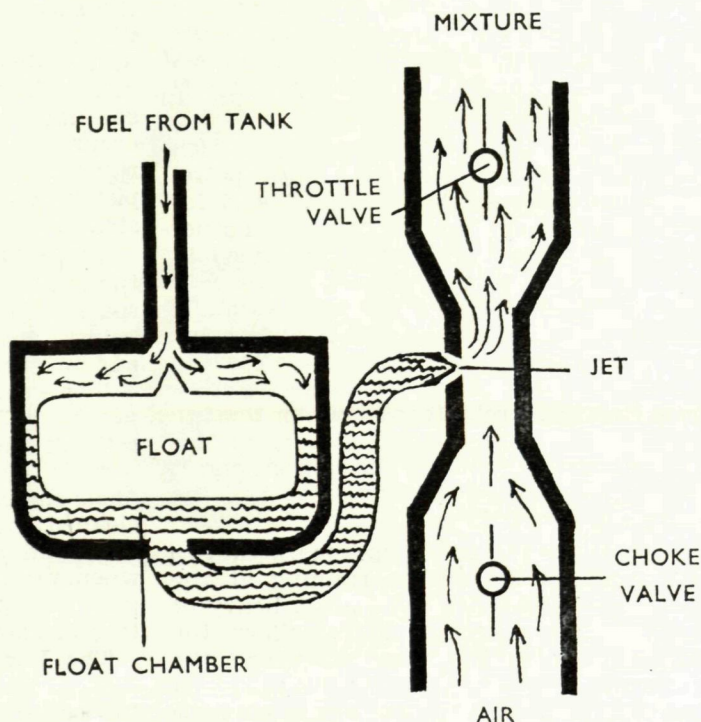
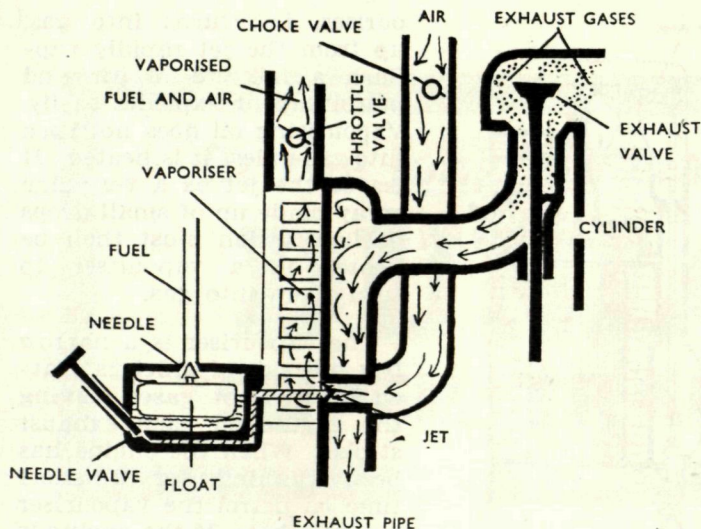

FIG. 7 THE CARBURETTOR
FIG. 8 THE VAPORISER
**The Carburettor.**—As the piston descends, a stream of air is drawn over a small hole called the jet from which it picks up some fuel and carries it on into the cylinder. The jet is fed from the fuel tank through a fuel chamber containing a float. If more fuel enters the float chamber than the engine needs, the float will rise until the valve at the top closes the pipe from the tank. When the engine needs more fuel, the float will fall and allow more to enter the float chamber. The quantity of fuel reaching the jet is controlled by the setting of a needle valve (see Fig. 8).
The vapouriser is a narrow box, one side of which is heated by the hot gases leaving the engine on each exhaust stroke. When the engine has been running for a short time on petrol the vapouriser becomes hot. If the engine is then turned on to vapourising oil, the spray of fuel from the jet will be heated and turned into a gas, which forms with air an easily exploded mixture (see Fig. 8).
**The Throttle** is shown in Figs. 7 and 8. It is a flat disc of metal which can be set so that it partially blocks the induction pipe, i.e., the pipe along which the fuel-air mixture flows to the engine. The speed and power of the engine are controlled by the amount of mixture that the throttle allows to enter the cylinders. In Fig. 7 the throttle is open, in Fig. 8 it is closed.